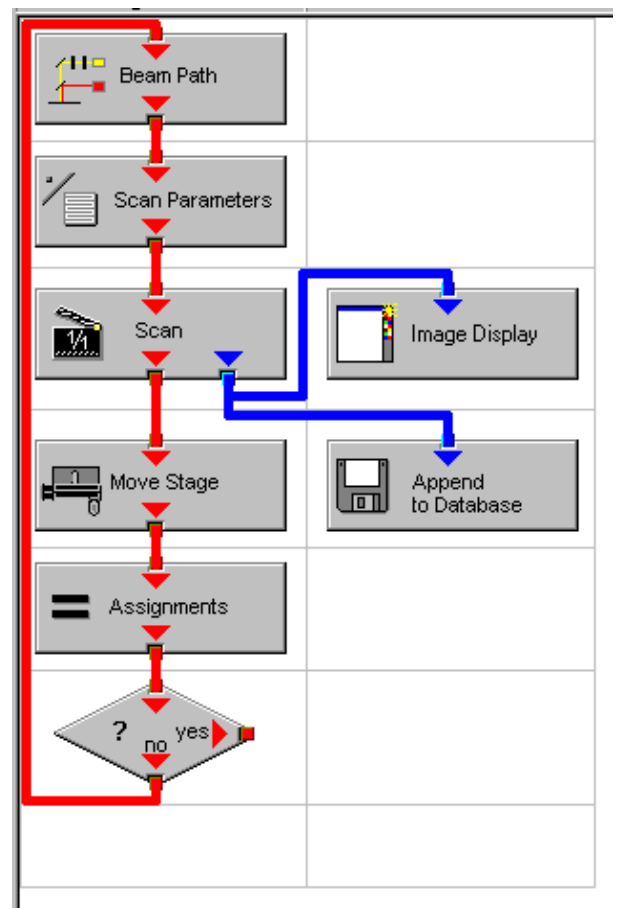

Fig. 12 Arrangement of action blocks
- Arrange and connect the action blocks (see Fig. 12).